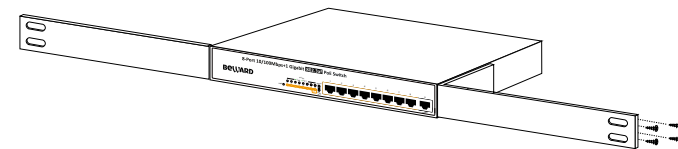

Figure 2-6: Attaching the Brackets to the PoE Ethernet Switch
Step 2: Attach a rack-mount bracket to each side of the PoE Ethernet Switch with supplied screws attached to the package. Figure 2-6 shows how to attach brackets to one side of the PoE Ethernet Switch.